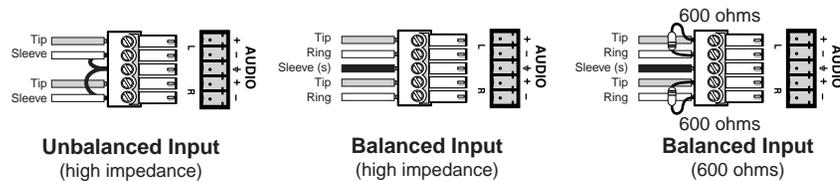
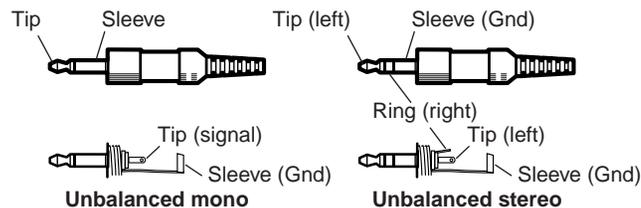

Figure 2-4 — Captive screw connector wiring for inputs
Figure 2-5 — Phono audio connectors
- ③ **Connections for balanced and unbalanced audio inputs** — Each input has a 3.5 mm, 5-pole captive screw connector for balanced or unbalanced stereo audio input. Connectors are included with each A/V switcher, but you must supply the audio cable. See figure 2-4 to wire a connector for the appropriate input type and impedance level. High impedance is generally over 800 ohms.
NOTE When making connections from the switcher using existing audio cables, see figure 2-5. A mono audio connector consists of the tip and sleeve. A stereo audio connector consists of the tip, ring and sleeve. The ring, tip, and sleeve wires are also shown on the captive screw audio connector diagrams, figure 2-4 and figure 2-6.